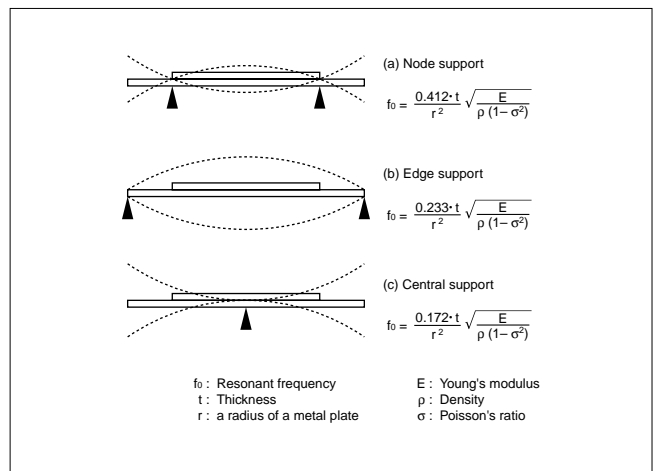
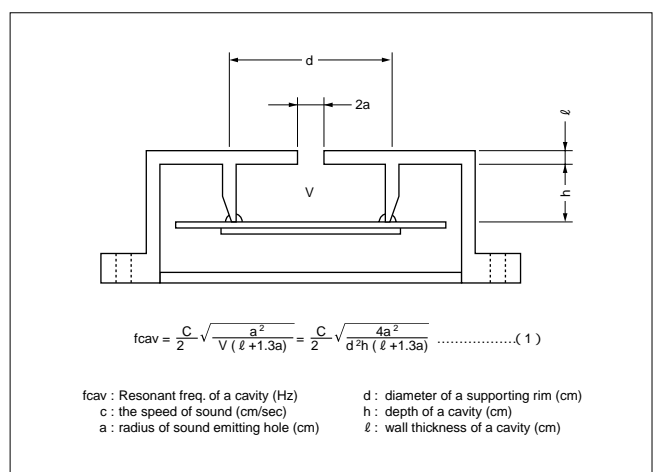

Fig. 3 Supporting method
Fig. 4 Sectional view of a cavity
In general, man's audible frequency range is about 20 Hz to 20kHz. Frequency range of 2kHz to 4kHz are most easily heard. For this reason, most piezoelectric sound components are used in this frequency range, and the resonant frequency ( $f_0$ ) is generally selected in the same range too. As shown in Fig. 3, the resonant frequency depends on methods used to support the piezoelectric diaphragm. If piezoelectric diaphragms are of the same shape, their values will become smaller in the order of (a), (b) and (c). In general, the piezoelectric diaphragm is installed in a cavity to produce high sound pressure (Fig. 4). The resonant frequency ( $f_{cav}$ ) of the cavity in Fig. 4 is obtained from Formula (1) (Helmholtz's Formula). Since the piezoelectric diaphragm and cavity have proper resonant frequencies, ( $f_0$ ) and ( $f_{cav}$ ) respectively, sound pressure in specific frequencies can be increased and a specific band width can be provided by controlling the both positions.
Fig. 9 shows a typical application of the self drive method. The piezoelectric diaphragm provided with feedback electrode shown in Fig.9 (i) is involved in the closed loop of a hartley types oscillation circuit. When the frequency is closed to the resonant frequency, the circuit satisfies oscillating conditions, and the piezoelectric diaphragm is driven with the oscillating frequency. Fig. 9 (ii) shows a simple oscillating circuit consisting of one transistor and three resistors. In general, the node support shown in Fig. 3 (a) is popular in the self drive method. Proper resonance of the piezoelectric diaphragm by the node support provides stable oscillation with high mechanical Qm of vibration but also a single high pressure tone.